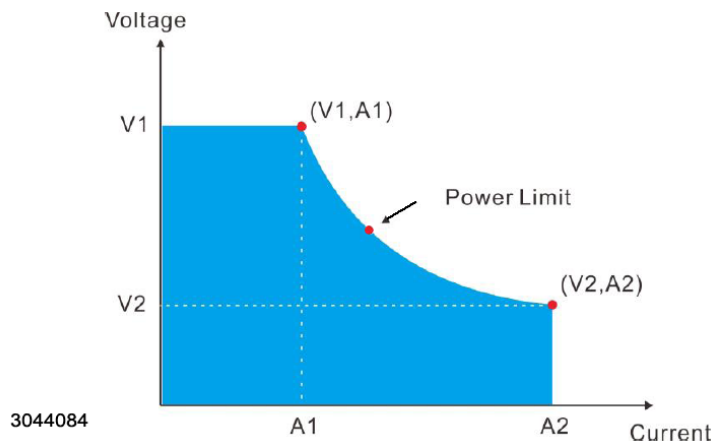

FIGURE 1-3. KLN EXT VOLTAGE AND CURRENT PARAMETERS USED IN TABLE 1-2
Table 1-2 below indicates specifications that vary for different KLN EXT models; Figure 1-3 illustrates the voltage and current parameters used in Table 1-2. Table 1-3 lists general specifications that apply to all KLN EXT models.
- Refer to Figure 1-3 for a graphical representation of V₁, V₂, A₁ and A₂.